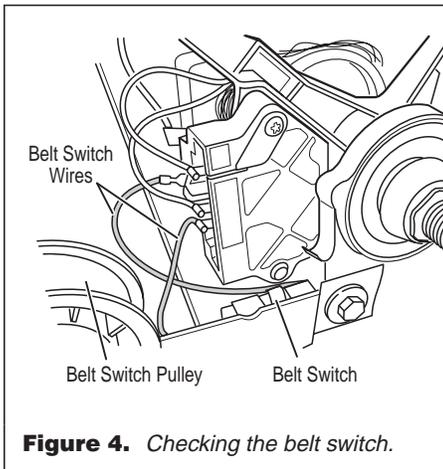

Figure 4. Checking the belt switch.
7. Check the belt switch by measuring resistance between the belt switch wires, as shown in figure 4, while pushing up the belt switch pulley.